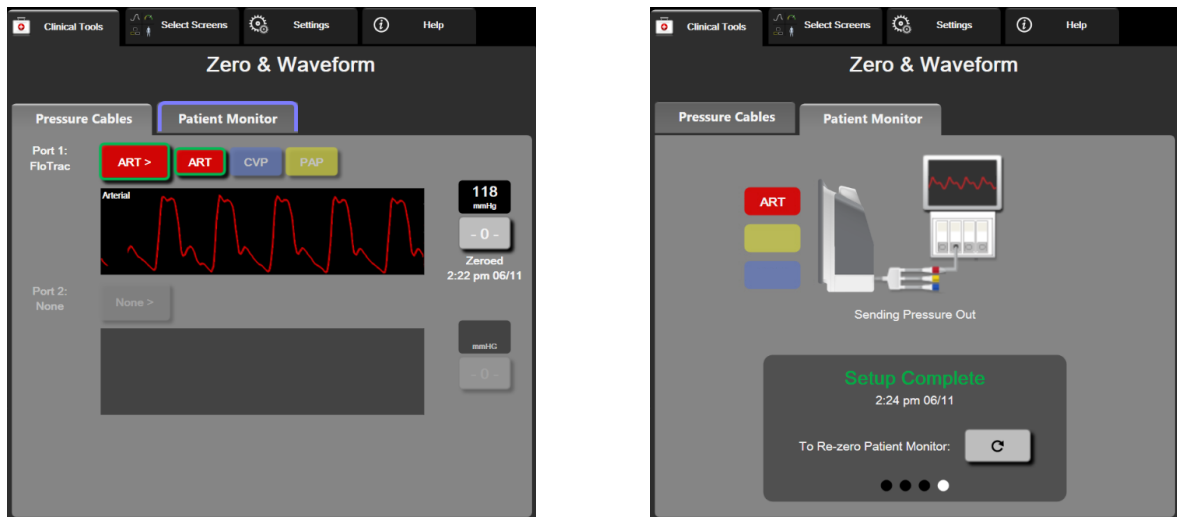

Figure 10-2: Zero & Waveform screens – Zero sensor and Pressure-Out
5. Touch the **Transmit Waveform** icon  to begin pressure signal output to the patient monitor. A **"Setup Complete"** message will be displayed when the live waveform is being transmitted to the connected patient monitor. See right screen shown in Figure 10-2 on page 184.